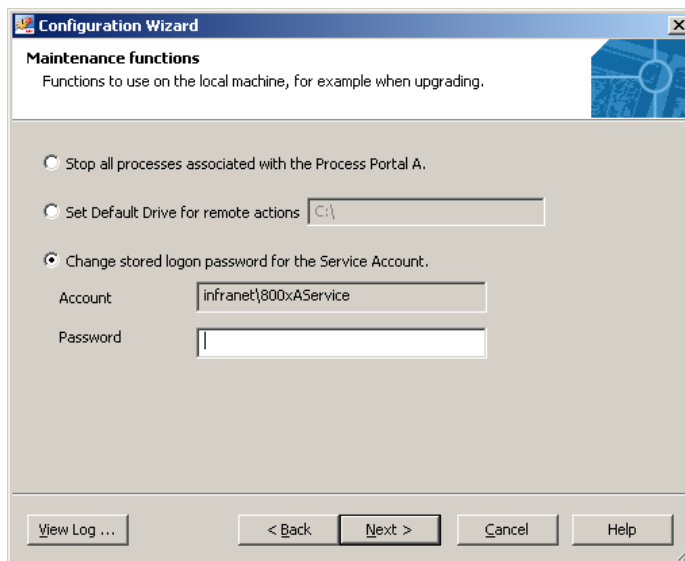

Figure 29. Maintenance - Change Service Account Password
1. Mark the **Change Service Account Password** radio button. See Figure 29.